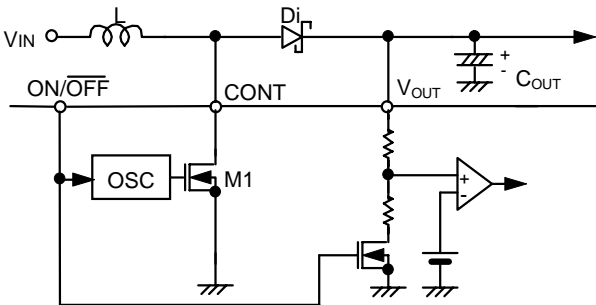

Figure 5
The following are basic equations [(1) through (7)] of the step-up switching regulator (see Figure 5.)